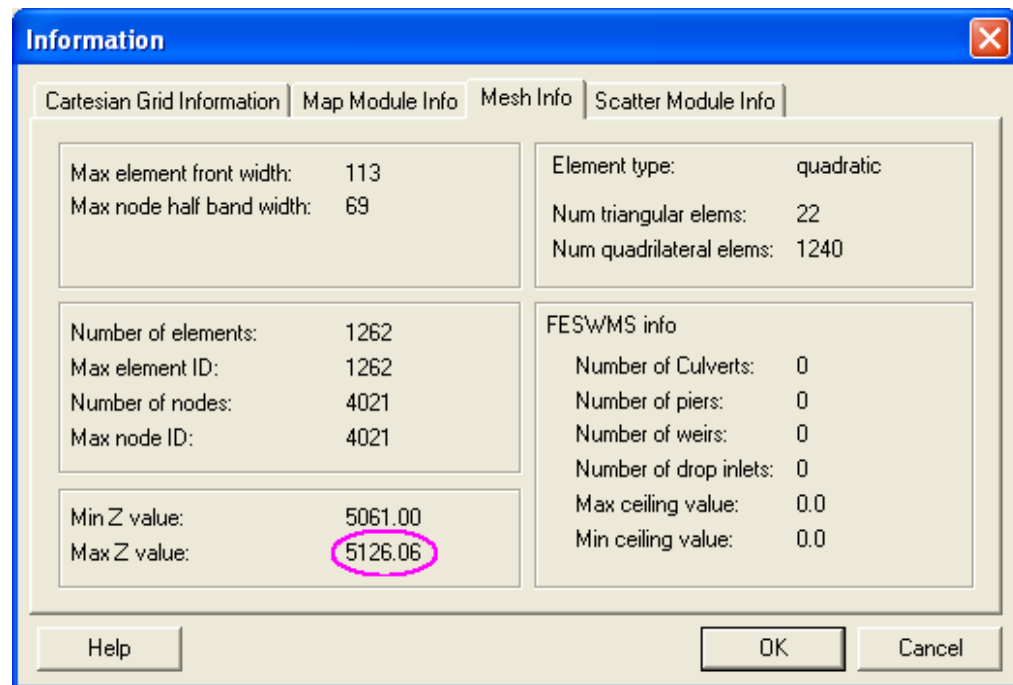

Figure 16-6. Mesh Information dialog.
2. In the *Mesh Info* tab, look at the *Max Z value*, highlighted in Figure 16-6.